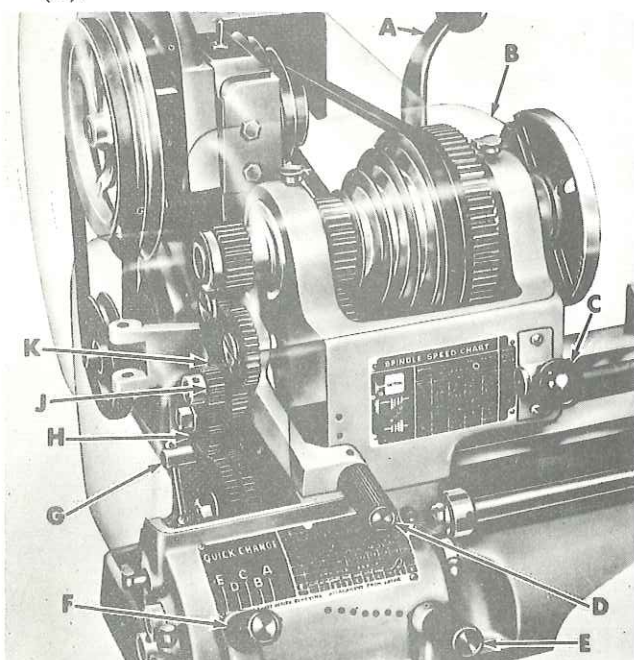

Figure 10
3. Move back gear lever (C, Fig. 10) to 'IN' (engaged position) by pulling on knob, then pushing down and in. It may be necessary to rotate spindle pulley by hand so gears will mesh.
CAUTION: The position of the back gear lever (C, Fig. 10) should not be changed unless motor is "OFF" and spindle has stopped turning.
3. Move back gear lever (C, Fig. 10) to "OUT" (disengaged position) by pulling on knob, then pushing up and in.
2. Raise headstock guard (B, Fig. 10).
3. Move belt tension lever (A) forward to relieve belt tension.
LEAD SCREW DIRECTION LEVER (D, Fig. 10) has three positions. Center position is neutral -- gear train is disengaged and lead screw does not turn. Upper position moves carriage toward tailstock. Lower position moves carriage toward headstock.
The left LEVER (F, Fig. 10) on quick-change box shifts to five positions -- A, B, C, D and E.